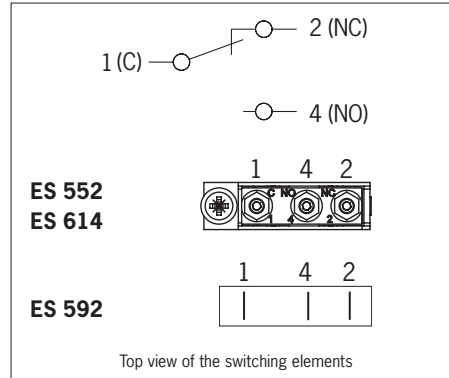

Fig. 1: Switching elements and terminal assignment
- For terminal assignment, see Fig. 1